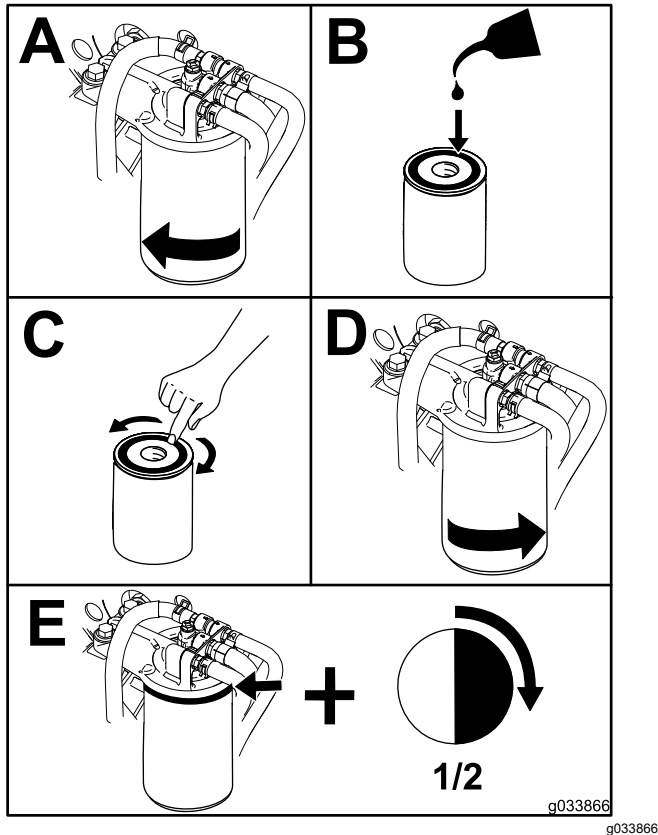

Figure 76
1. Clean the area around the filter head (Figure 76).